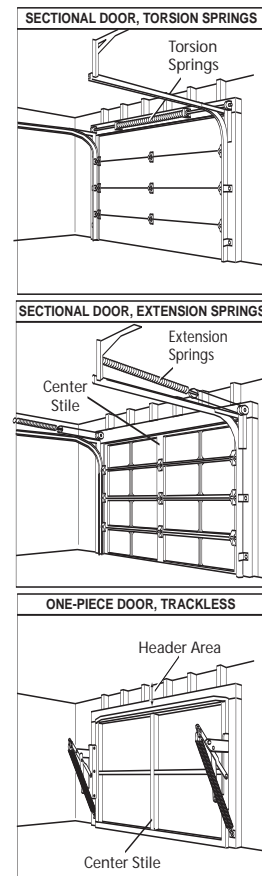

Figure 2 Note Door Type
Check condition of vertical stile in center of door, and its connection to door's top and bottom beams. (Figure 2)
- C** Check door type. Make a note of whether it is a sectional or a one-piece door (Figure 2).